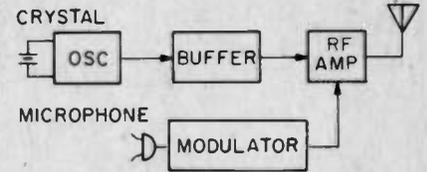

Fig. 12. This basic AM transmitter without crystal synthesizer is used in most 3 to 6 channel sets, although sometimes without a buffer.
Amplitude Modulation (AM) transmitters are the easiest to design, adjust, check, and service, for there is little that can go wrong. In fact, between the least expensive and most expensive CB transceivers there might be little, if any, difference in the transmitter circuits. Fig. 12 shows the block diagram for a solid-state "single channel" transmitter—single channel meaning a transmitter with from one to five or perhaps eight channels. In these models the user adds channels by plugging in transmit and receive crystals for the desired channel coverage. The transmitter line-up usually consists of a crystal controlled oscillator, a buffer amplifier to prevent changes in the antenna circuit from reflecting back to the oscillator, and an RF power amplifier, which amplifies the miniscule RF drive from the oscillator to about 3 watts RF output. In some transmitters the buffer amplifier is eliminated and the oscillator feeds directly into the RF power amplifier, just as is done in tube-type transmitters.
When the transmitter has full 23-channel coverage, a crystal synthesizer is almost universal, and the basic transmitter is very similar to the arrangement shown in Fig. 12. The major difference is the synthesizer, a device that